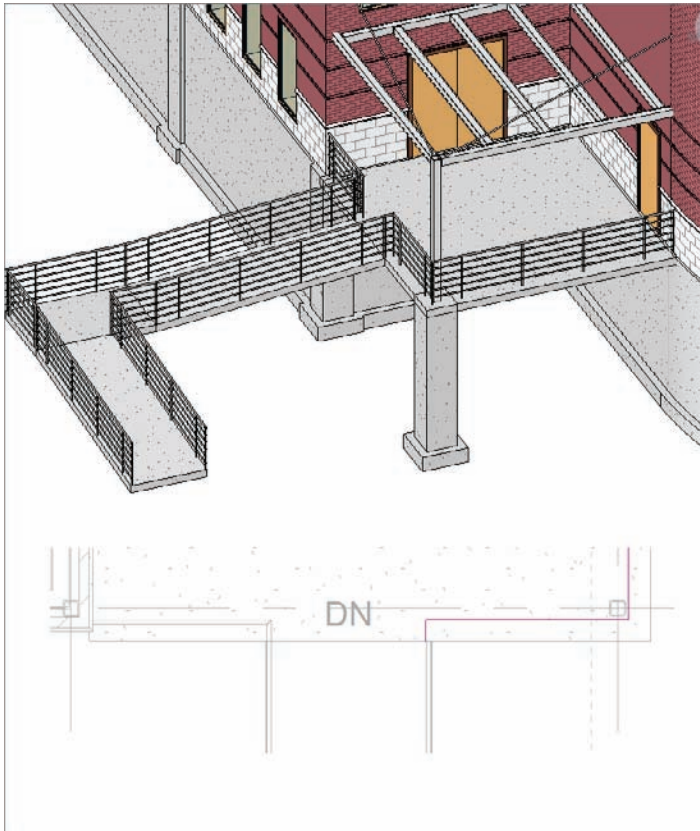

FIGURE 10.87 Adding the railing just as you have been doing this entire chapter
5. Draw a railing in 8" (200mm) from the slab edge, as shown in Figure 10.87.